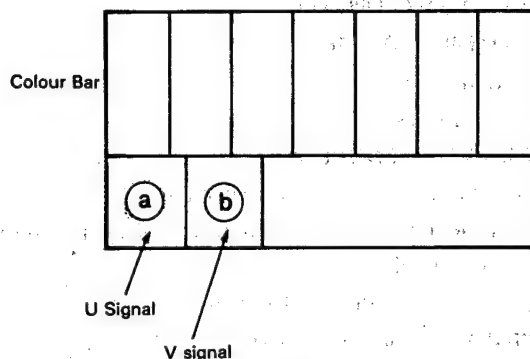

Fig. 27
21. Memory the this level for ③ and ④ (about colourless) as shown in Fig. 27.
23. Turn L5307 (U/V signal for pulse cross) so that the level for ③ and ④ is the same to level for ① and ② (about colourless) as shown in Fig. 27 and 28.